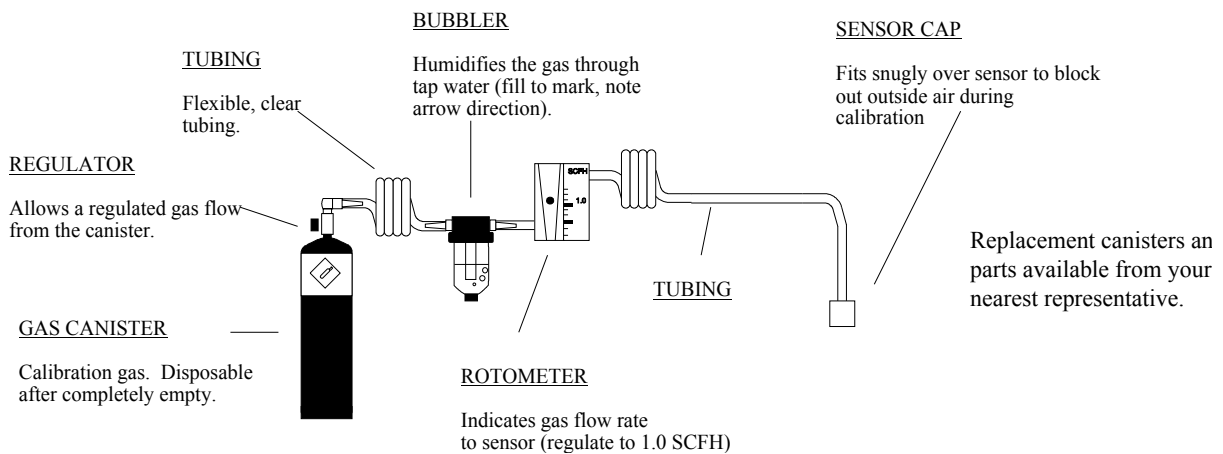

Figure 1.0
4. **SETTING THE LOW ALARM:** Setup the Enmet calibration kit as per the Enmet calibration kit drawing (see fig 1.0). You will need a gas canister containing the gas concentration of the low alarm level (i.e. if the low alarm is to be set at 35 PPM Carbon Monoxide then the canister should contain 35